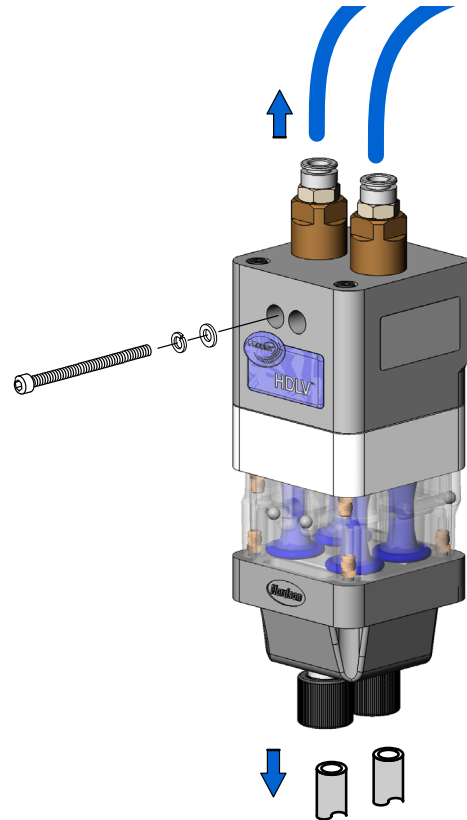

Figure 9 Disassembly Preparation
1. See Figure 9. Disconnect the purge air lines from the top of the pump.